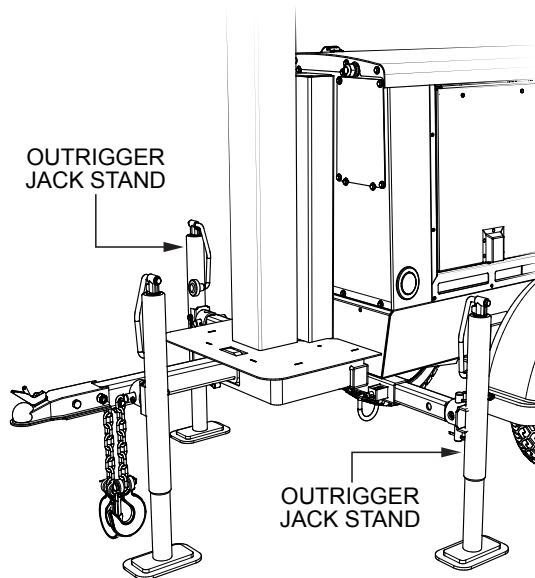

Figure 3. Outrigger Deployment
1. Deploy the left and right side outrigger jack stands to support the front-end (tow side) of the light tower. See Figure 3